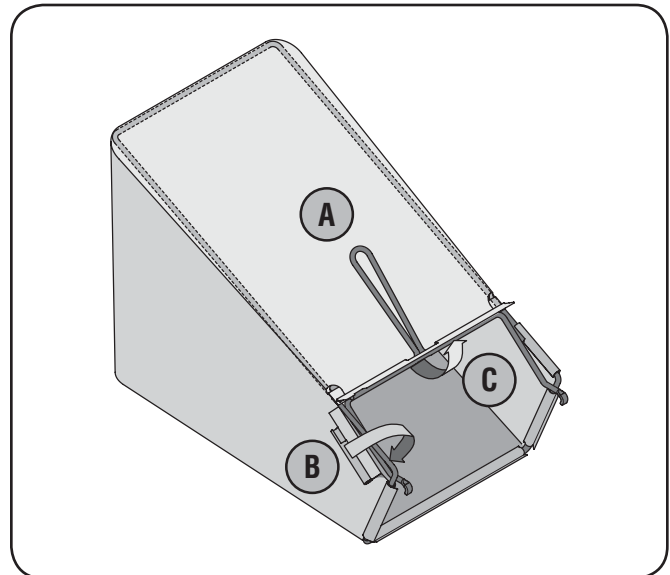

Figure 3-5
- b. Slip plastic channel of grass bag over frame rods. See Fig. 3-5. All the plastic channels except center top of bag attach from outside of bag.